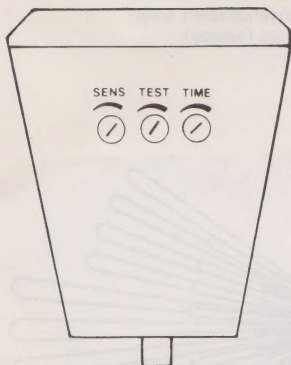

FIG. 4
2. The control module has three (3) control knobs on the bottom. The function of each is explained below. Refer to Fig 4. Final adjustment of the knobs is explained in the "set up" portion of this manual.